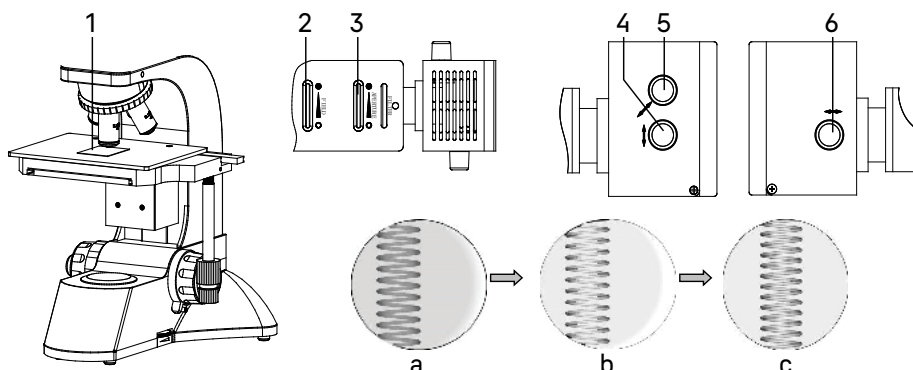
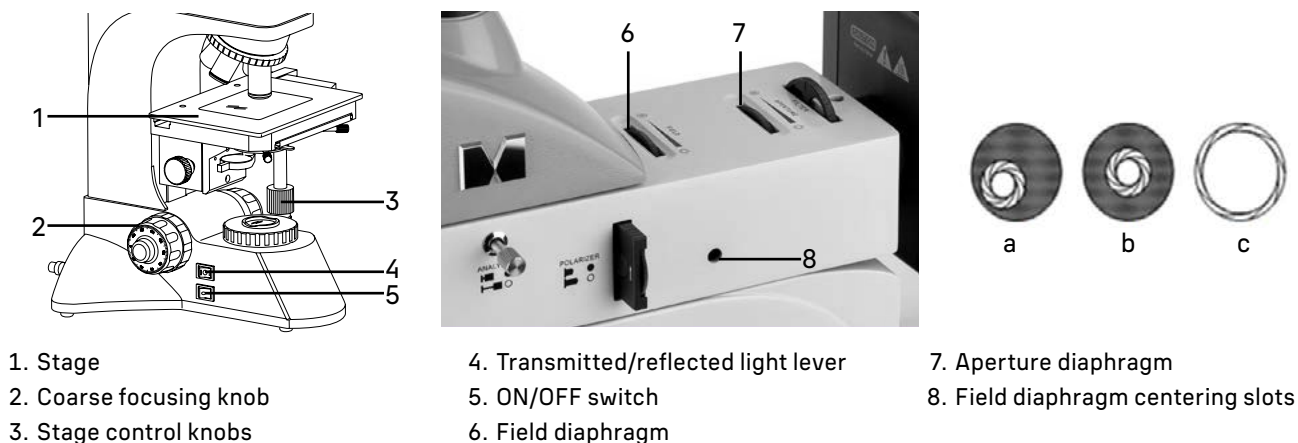

Fig. 16. Centering the light source
Fig. 17. Centering the field diaphragm
1. Place a sheet of white paper 1 (approximately 40x50mm) on the stage as shown in Fig. 16.
3. Open the field 2 and aperture 3 diaphragms (Fig. 16). A brightly illuminated spot will appear on the paper showing the filament, as shown in Fig. 16c.
4. If the filament image is blurry, adjust the position of the collector using the knob 6 (Fig. 16).
5. If the filament image is offset from the center of the light spot, as shown in Fig. 16b, manipulate the lateral alignment knob 4 and the vertical alignment knob 5 (Fig. 16) to center the light source.
- Make sure that the power supply and the illuminator are switched on: switch 5 (Fig. 16) is in the "–" position, switch 4 (Fig. 17) is in the "II" position, and the lever 4 (Fig. 2) is in the reflected light position.
- Introduce the 10x objective into the optical path, place the specimen on the stage 1 (Fig. 17), focus, and adjust the eyepieces.
- While looking through the eyepieces, close the field 6 (Fig. 17) and aperture 7 (Fig. 17) diaphragms so that only the center of the field of view is illuminated.
- Verify the centering of the field diaphragm image. If necessary, center the image with two centering wrenches, having previously installed them in the sockets 8 (Fig. 17) located on both sides of the illuminator.
- Open the field diaphragm 6 (Fig. 17) until it just disappears outside of view. Close the aperture diaphragm 7 (Fig. 17) to achieve the desired contrast and the optimal level of illumination.
- When you change an objective, adjust the opening of the field diaphragm 6 (Fig. 17). It should always be slightly larger than the field of view.
- When you change an objective, adjust the opening of the aperture diaphragm 7 (Fig. 17). When using low-magnification objectives, reduce the aperture diaphragm opening; when using high-magnification objectives, increase the aperture diaphragm opening. Make sure that the image is clear and high-contrast.